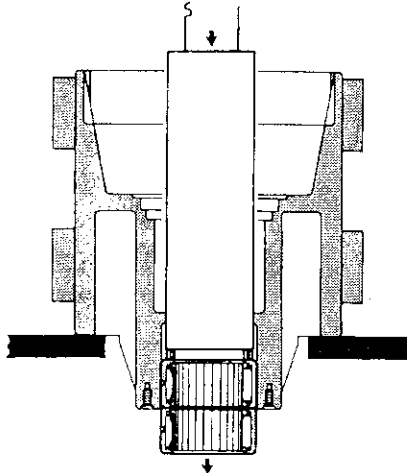

Figure 5.5
7. Thread an 8" piece of 3/8" stock (3/8 -24 x 1/2"). Screw the threaded end into the threaded bore of the facet pinion (47). Remove the pinion from the vise. Using a medium sized ballpeen hammer, tap the threaded bar on the end to force the pinion from the drive housing. See Figure 5.5. Remove the pinion key (46).